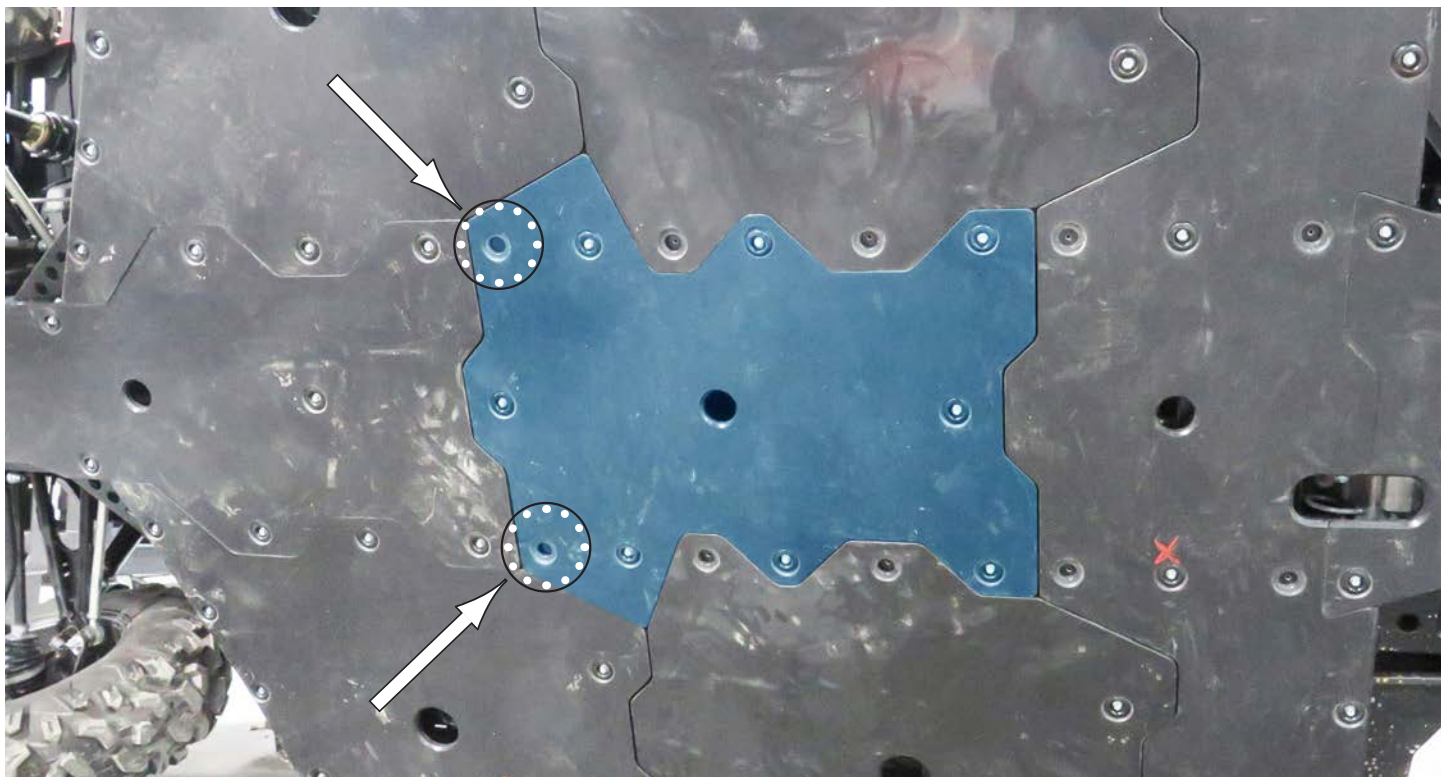

Fig.5c
5. After the Stiffener Plates are installed, you can now install the **Center Middle Plate**. This one uses the standard **M6x20 Bolts** and **Bowl Washers**, **Fig.5a-b**. There are only **Two (2) locations** on this plate that get **Drilled Thru** at the end. See **Fig.5c** below.